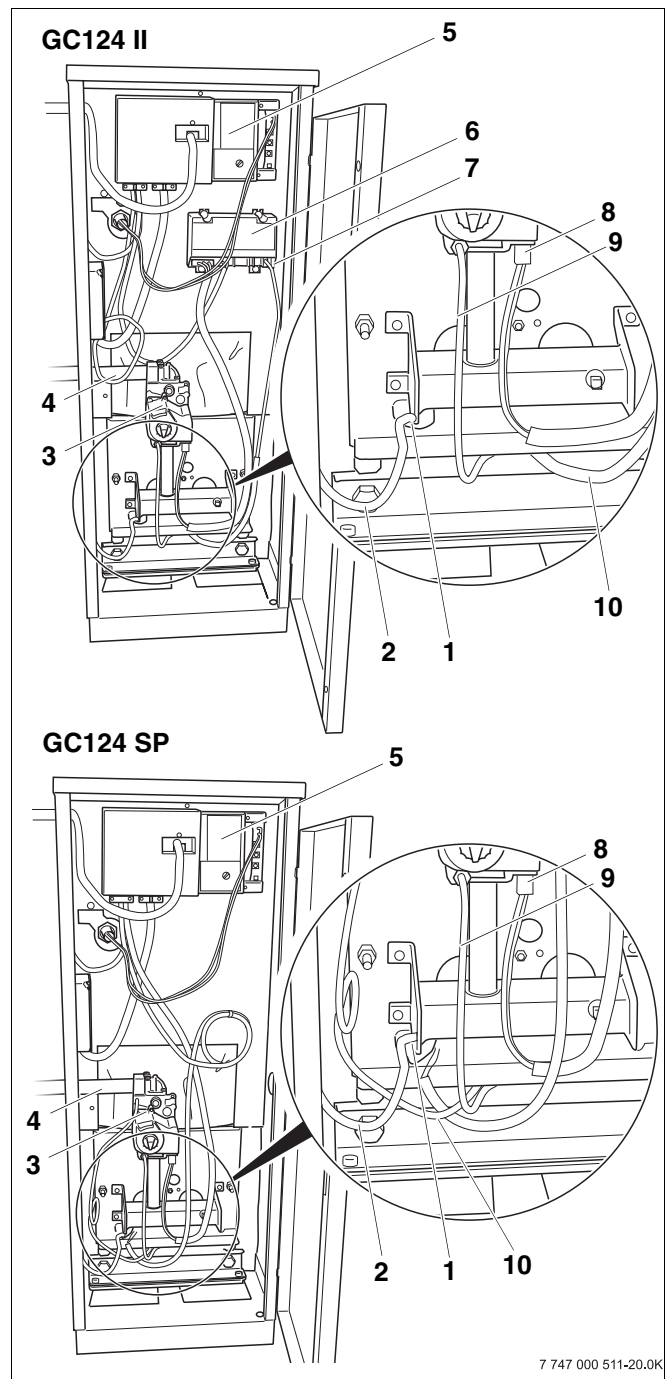

Fig. 3 Front view (GC124 II top, GC124 SP bottom)
8. **GC124 II only:** Remove igniter cable from ignition module (→ Fig. 3).
9. Disconnect cable connector from bottom of gas valve (→ Fig. 3).
10. Label cables to the flame roll-out switch, then remove cable (→ Fig. 3).